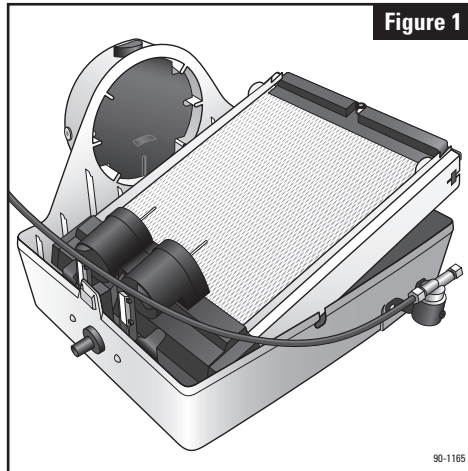

Figure 1
1. Press top & bottom tabs to remove cover (1). Pull feed tube (3) out of distribution tray (4). Remove Water Panel® Evaporator assembly. See **Figure 1**.
2. Humidifier is supplied with bypass duct connection on left. For right side bypass, swap location of water level sensor assembly (9) and cap (10).
4. Place humidifier base (2) in opening and secure with 6 screws in openings provided.